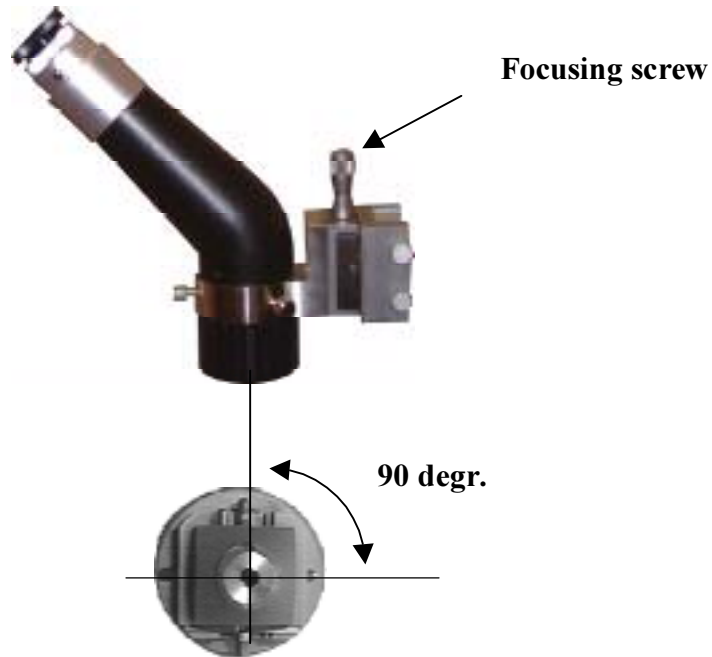

Fig 13
To make the adjustment as easy as possible, turn the goniometer head so that the adjustment screws are perpendicular to the microscope axis. See fig 13.
- 1) For this adjustment, look into the microscope, without taking any notice of the cross hair at this moment. Just observe the position of the pinhole and adjust the focusing screw (fig 13) for a clear picture. Adjust the micrometer screw on the rotary stage (2) so that the pinhole lies on the X-axis in the microscope. Notice the exact position of the goniometer head, in degrees. This we will call 0 degrees.